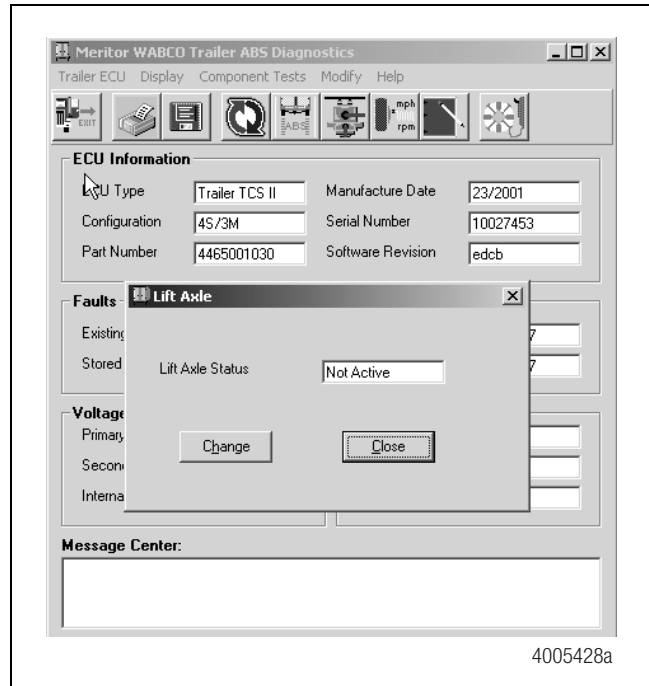

Figure 30
2. Click on **Lift Axle**. The default lift axle screen will appear and display the default lift axle status **Not Active**. Figure 30.